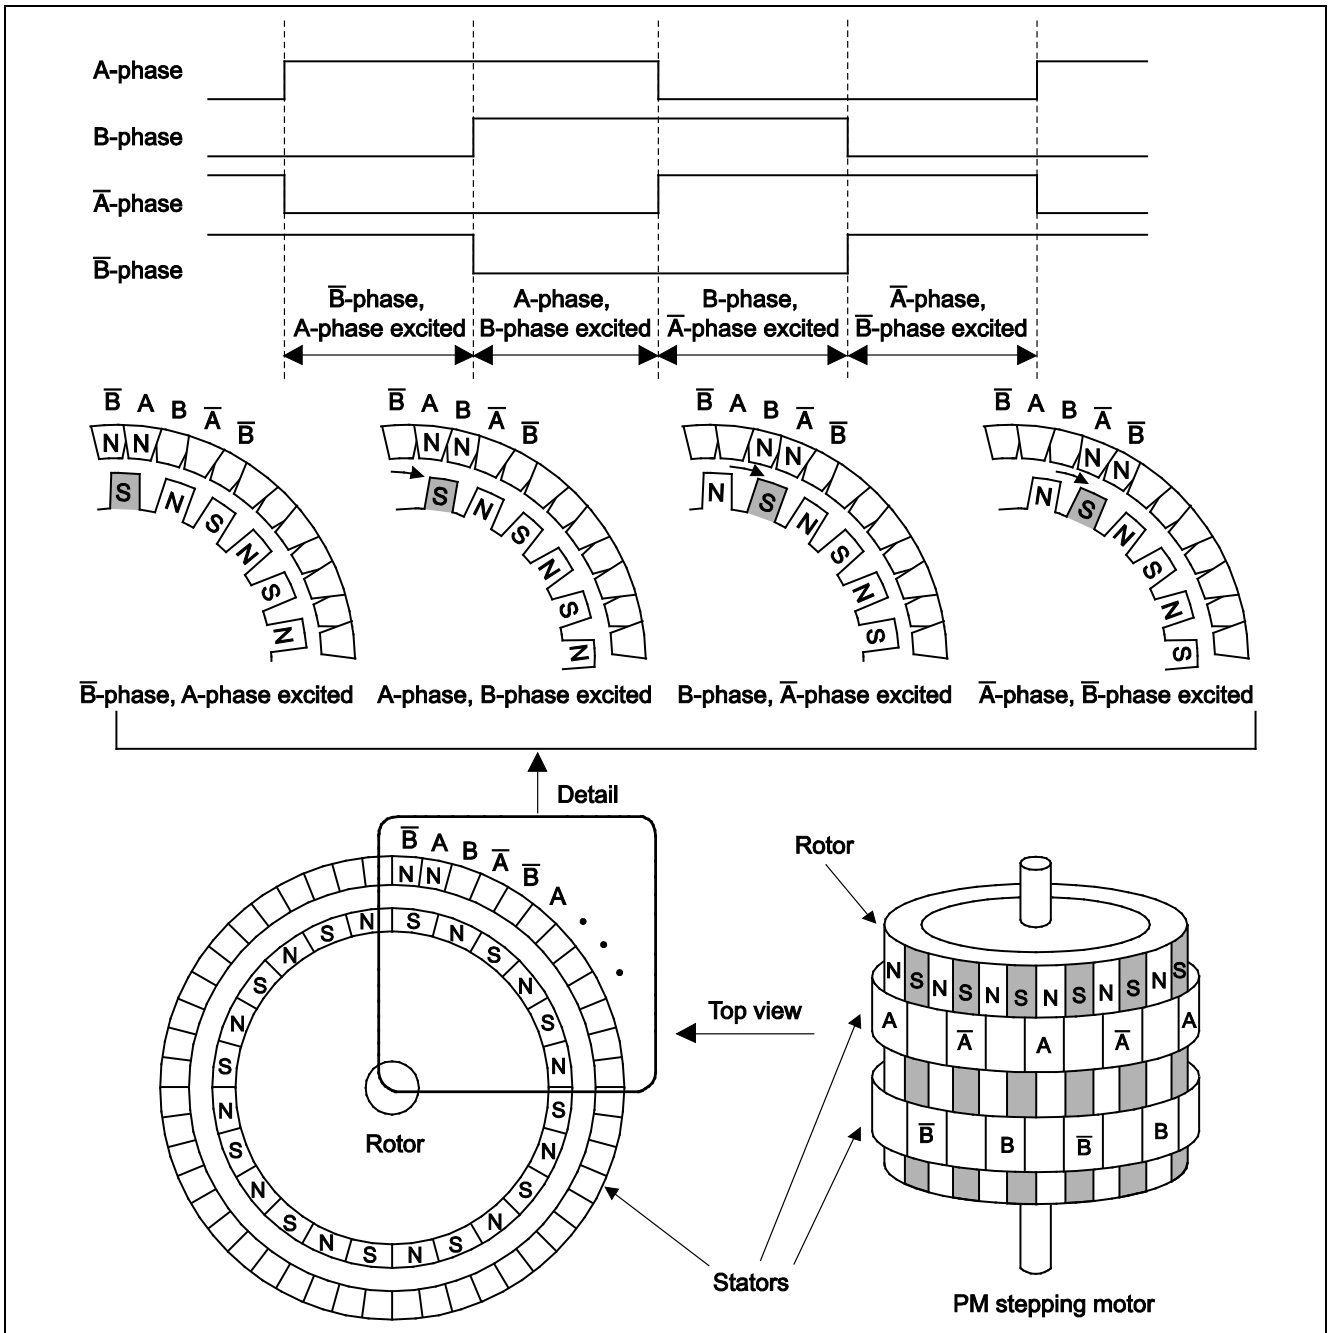

Figure 5.1 Stepping Motor Operation Example
Figure 5.1 shows an example of the operation of a two-phase stepping motor with a step angle of 7.5 [degrees/step] by using two-phase excitation.
- As shown in figure 5.1, when a pulse is high the corresponding phase is excited.